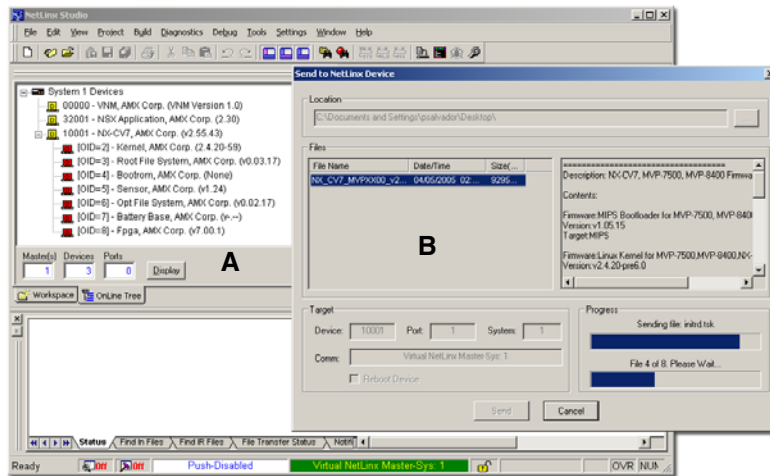

FIG. 58 Using USB for a Virtual Master transfer
7. From within Studio, select **Tools > Firmware Transfers > Send to NetLinx Device** from the Main menu to open the Send to NetLinx Device dialog (**B** in FIG. 58). Verify the panel's System and Device number values match those values listed within the System folder in the **OnLine Tree** tab of the Workspace window (**A** in FIG. 58).
11. Click **Send** to begin the transfer. The file transfer progress is indicated on the bottom-right of the dialog (**B** in FIG. 58).